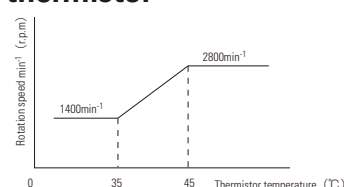

Fig. 6
(1) The fan selected was a 109P1212T4H12 thermal speed controlled fan having a performance equal to that of conventional fans at high speed.
(2) The relationship between the temperatures of important components and those of the cooling fin can be measured with varied loads on the equipment and varied air flows of the fan. Since a correlation was determined, the thermistor can then be placed on the cooling fin, one of the important components.
(3) Next, in view of the thermal design conditions of the equipment, the fan is set to high speed at an ambient temperature of 30°C and an equipment load of 100%.
(4) At an ambient temperature of 30°C and an equipment load of 100%, the temperature of the cooling fin was 48°C and the surface temperature of the thermistor placed on the cooling fin was 45°C when the fan was running at high speed. It was therefore decided to add a 1.5 KΩ resistor in series with the thermistor according to Table 1. In this case, the thermistor temperature is 35°C and the fan runs at low (see Table 1 and Fig. 6).
(5) Test results as installed on equipment: The thermal speed controlled fan displayed its full effect, thus being greatly advantageous in noise reduction. The ambient temperature during the test was 29°C.